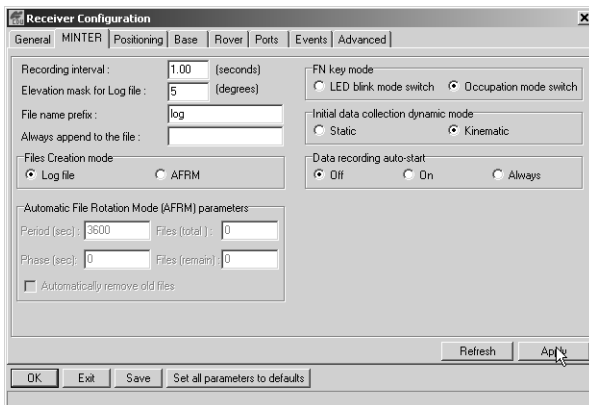

Figure 3-5. Rover MINTER Configuration
2. Using PC-CDU, click **Configuration ▶ Receiver ▶ MINTER**, and configure the Rover with the following parameters, then click **Apply** (Figure 3-5):